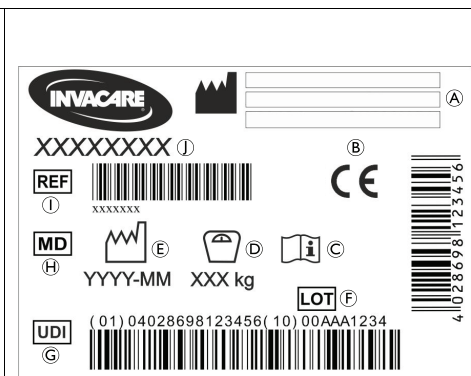

Fig. 4
2.2 Labels and Symbols on the Product (Fig. 4)